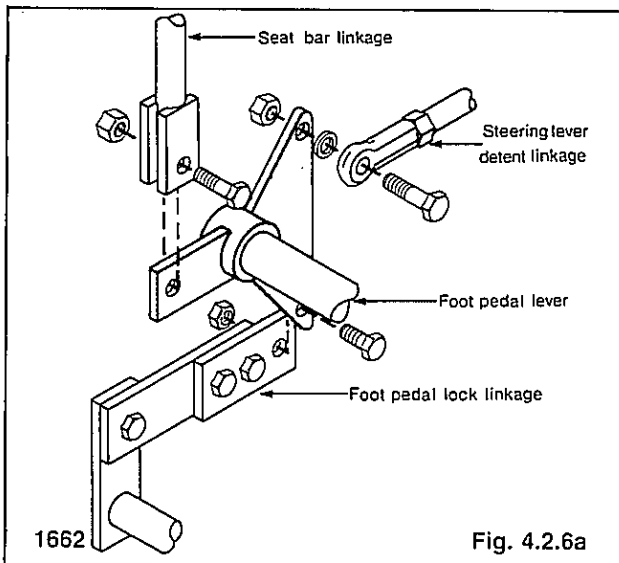

Fig. 4.2.6a
3. Disconnect the seat bar linkage (fig. 4.2.6a) from the foot pedal lever.
4. Disconnect the steering lever detent linkage (fig. 4.2.6a) from the foot pedal lever.
5. Disconnect the foot pedal lock linkage from the foot pedal lever (fig. 4.2.6a).